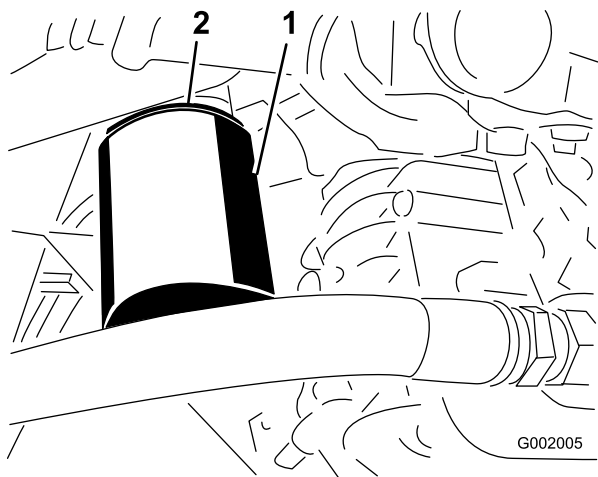

Figure 66
4. Remove the filter (Figure 66).